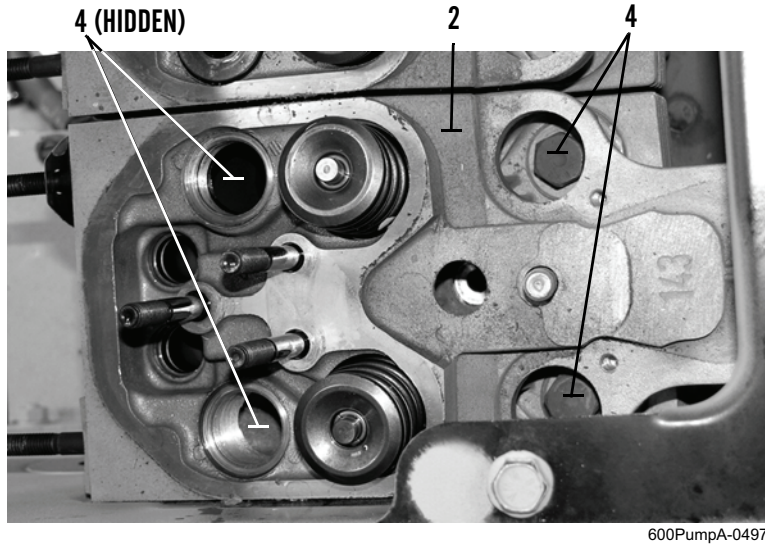

Figure 15. Cylinder Head Bolts.
9. Tighten all bolts (Figure 15, Item 4) in cylinder head (Figure 15, Item 2) in a crosswise pattern to 22 to 33 lb-ft (30 to 45 Nm). Then tighten an additional 45 degrees, three separate times in same crosswise pattern. Tighten all bolts another 30 degrees.